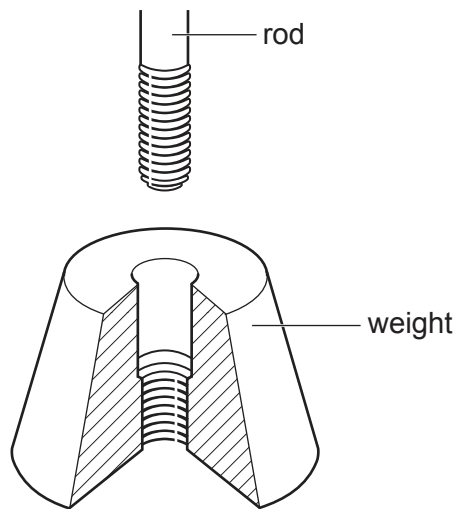

Fig. 12.6
- (f) Fig. 12.6 shows how the  $\text{Ø}3$  mild steel rod will be joined to the mild steel weight by means of a screw thread.